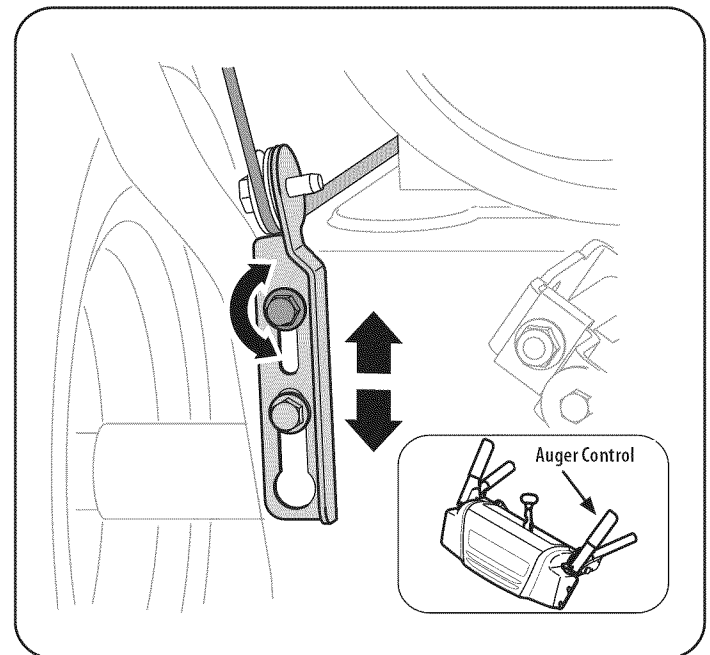

Figure 15
1. The auger control is located on the left handle. See Figure 15 inset. When the auger control is released and in the disengaged “up” position, the cable should have very little slack. It should NOT be tight.
4. Allow the auger to remain engaged for approximately ten (10) seconds before releasing the auger control. Repeat this several times.
7. To readjust the control cable, loosen the upper hex bolt on the auger cable bracket. See Figure 15.